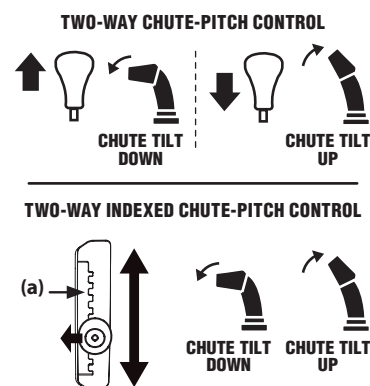

Figure 3-15
To change the upper chute angle to control the distance that snow is thrown, pivot the lever forward or backward. See Figure 3-15.
- **To Reduce the Distance Snow is Thrown:** Move the lever forward to pivot the upper chute down. See Figure 3-15.
- **To Increase the Distance Snow is Thrown:** Move the lever rearward to pivot the upper chute upward. See Figure 3-15.
- **To Reduce the Distance Snow is Thrown:** Disengage lever from the current chute-pitch setting. Move the lever forward to pivot the upper chute down to the desired pitch setting (a). See Figure 3-15.
- **To Increase the Distance Snow is Thrown:** Disengage lever from the current chute-pitch setting. Move the lever rearward to pivot the upper chute upward to the desired pitch setting (a). See Figure 3-15.